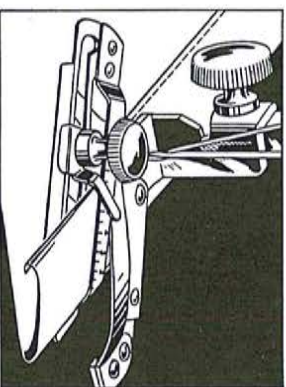

Fig. 43. Showing How Adjustable Hemmer is Used for Making Hems up to $1\frac{5}{16}$ Inch Wide
See Fig. 43
4. Place cloth in hemmer and draw it back and forth until hem is formed, as shown in Fig. 43.